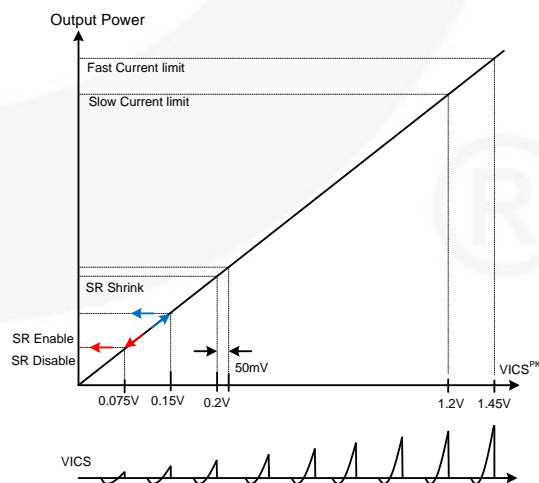
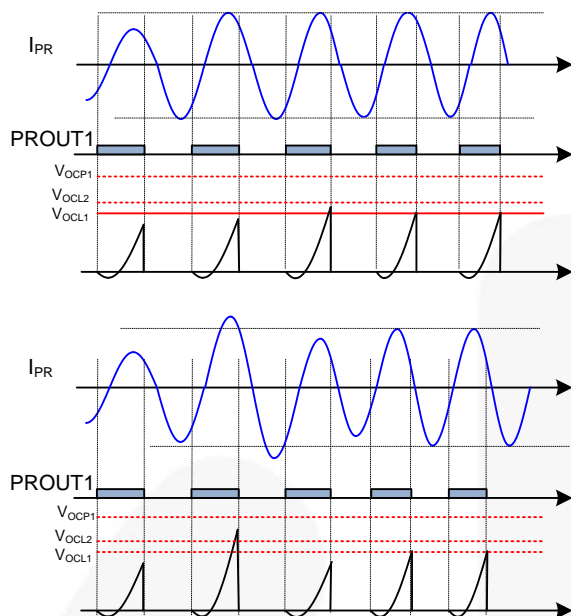
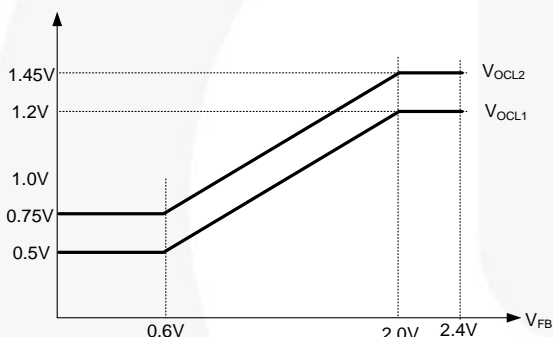

Figure 63. Functions Related to V_{ICS} Peak Voltage
Figure 64. Current Limit of the ICS Pin by Frequency Shift (Compensation Cutback)
Figure 65. Current Limit Threshold Modulation as a Function of Feedback Voltage
Since the peak value of the integral of the current sensing voltage (V_{ICS}) is proportional to the average input current of the LLC resonant converter, it is used for four main functions, listed and shown in Figure 63.
(1) SR Gate Shrink: To guarantee stable SR operation during light load operation, the SR dead time (both of turn-on and turn-off transitions) is increased resulting in SR gate shrink when V_{ICS} peak value drops below V_{TH1} (0.2 V). The SR dead time is reduced to the programmed value when V_{ICS} peak value rises above 0.25 V.
(2) SR Disable and Enable: During very light-load condition, the SR is disabled when the V_{ICS} peak value is smaller than V_{TH3} (0.075 V). When the V_{ICS} peak value increases above V_{TH2} (0.15 V), the SR is enabled.
(3) Over-Current Limit: The V_{ICS} peak value is also used for input current limit. As can be seen in Figure 63, there exist two different current limits (fast and slow). When the V_{ICS} peak value increases above the slow current limit level (V_{OCL1}) due to a mild overload condition, the internal feedback compensation voltage is slowly reduced to limit the input power. This continues until the V_{ICS} peak value drops below V_{OCL1} . During a more severe over load condition, the V_{ICS} peak value crosses the fast current limit threshold (V_{OCL2}) and the internal feedback compensation voltage is quickly reduced to limit the input power as shown in Figure 64. This continues until the V_{ICS} peak value drops below V_{OCL2} . The current limit threshold on the V_{ICS} peak value also changes as the output voltage sensing signal (V_{FB}) decreases such that output current is limited during overload condition as shown in Figure 65. These limit thresholds change to higher values ($V_{OCL1.BR}$ and $V_{OCL2.BR}$) when the converter operates in deep below resonance operation for a longer holdup time (refer to holdup time boost function).
(4) Over-Current Protection (OCP1): When the V_{ICS} peak value is larger than V_{OCP1} (1.9 V), the over current protection is triggered. 150 ns debounce time is added for over-current protection. These OCP threshold changes to a higher value ($V_{OCP1.BR}$) when the converter operates in deep below resonance operation for a longer holdup time (refer to holdup time boost function).